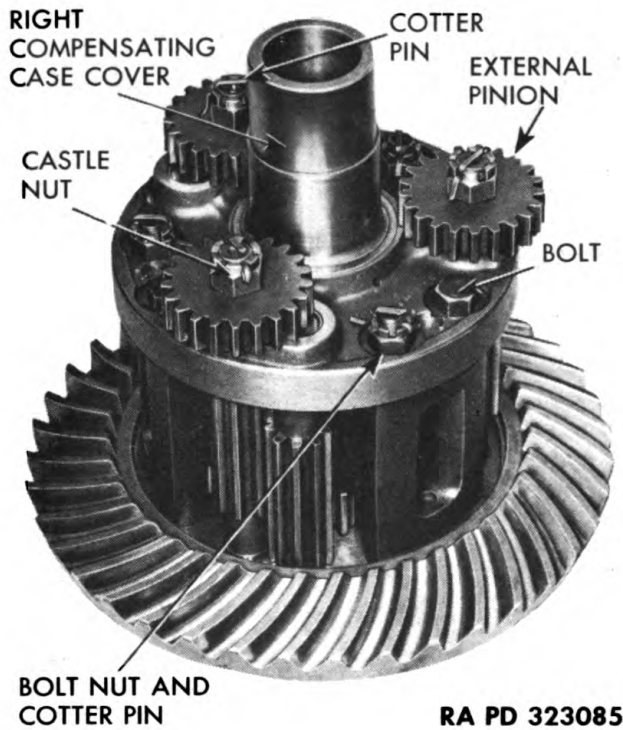

Figure 86 — Differential Compensating External Pinion Installation
d. Remove External Pinions. Remove cotter pins and nuts securing six external pinions, three on each side (fig. 86). Hold pinions from turning by placing a brass drift between internal pinions and compensating case. Remove external pinions with puller (41-P-2912) (fig. 87). Remove Woodruff key from each internal pinion shaft.
e. Remove Right Compensating Case Cover. Remove cotter pins and nuts from six compensating case bolts, and remove bolts (fig. 86). Drive cover from case by tapping around edge of cover (fig. 88). Three dowel pins locate cover in relation to case.
e. Install Compensating Case Bolts (fig. 86). Install three bolts, nuts, and cotter pins in each cover. Bolts must be placed in holes that bring bolt heads closest to threaded ends of external pinion shafts.
f. Install External Pinions (fig. 86). Tap Woodruff keys into slots provided in threaded ends of internal pinion shafts. Install external pinions on shafts, and secure with nuts and cotter pins.